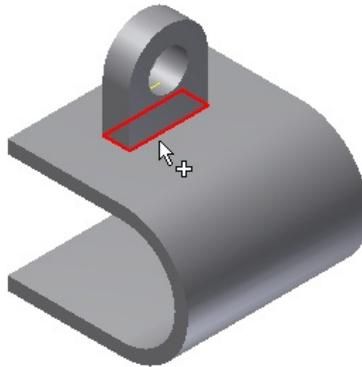
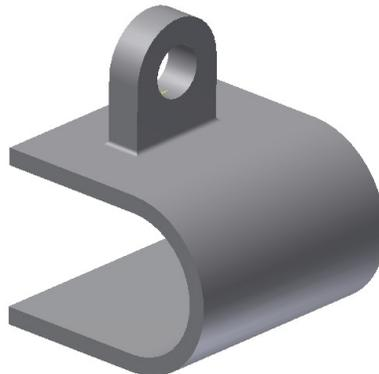

Figure 7-56 Loop selected for creating the fillet
Figure 7-57 Model after creating the fillet on the third join feature
- f. Add fillet to the third join feature, refer to Figure 7-57.
3. Select the loop on the third join feature of the model, as shown in Figure 7-56. Next, choose **OK** from the **Fillet** dialog box; the fillet feature is created, as shown in Figure 7-57.